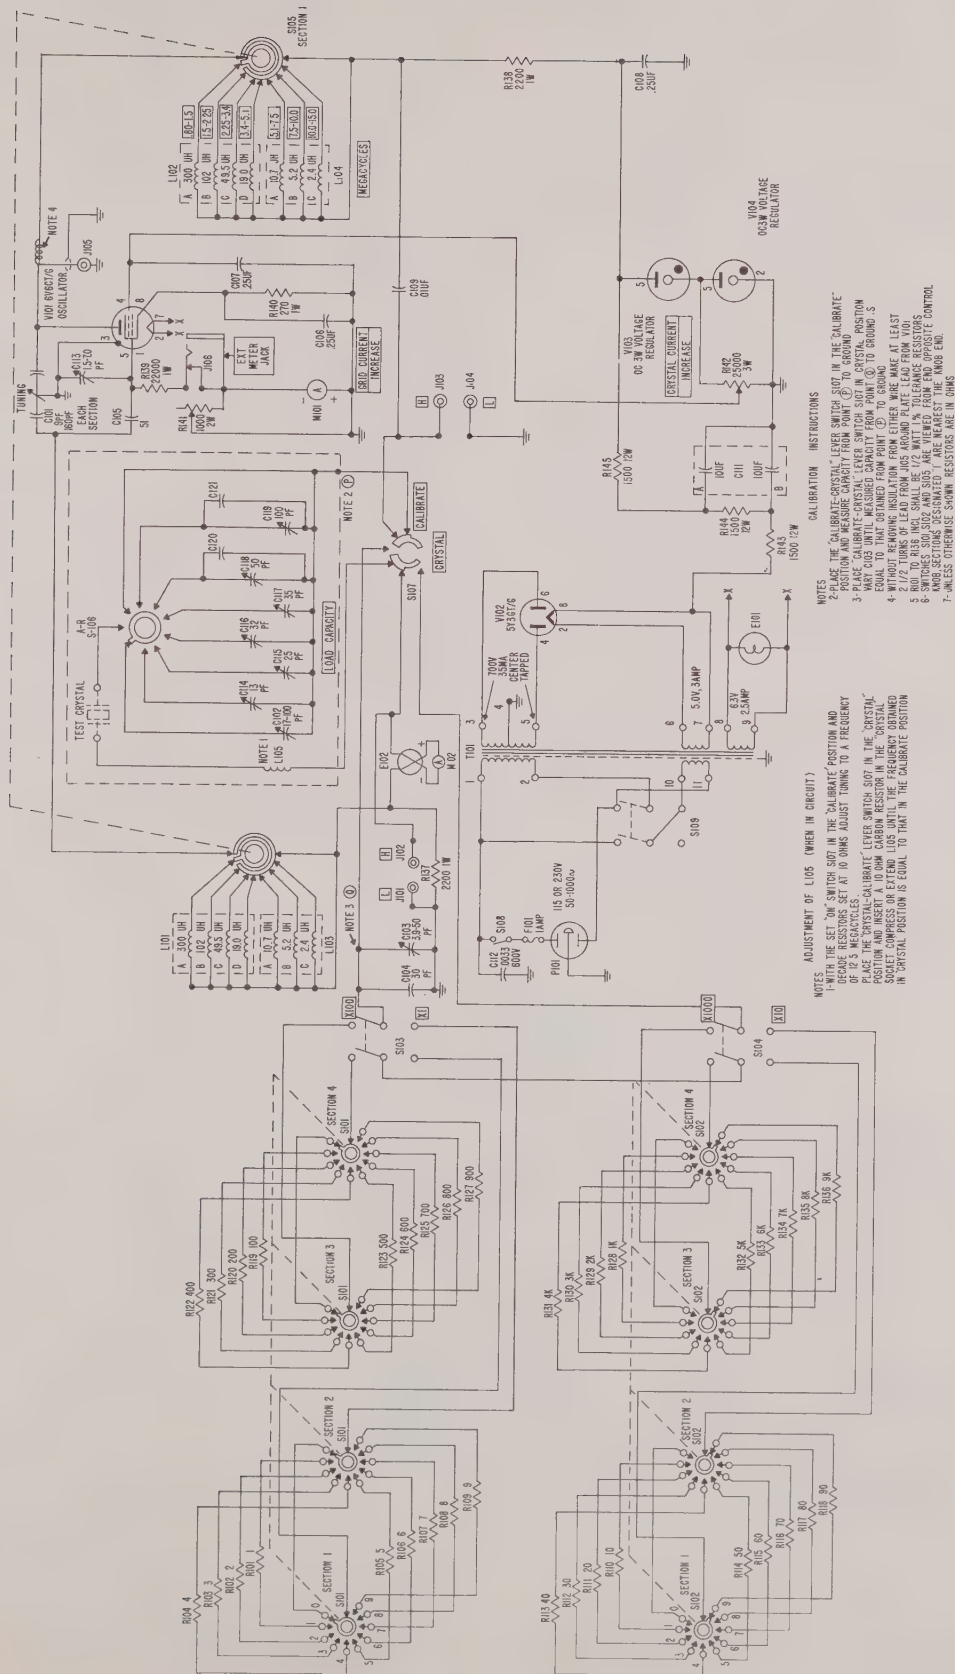

Figure 5. Over-all Schematic Diagram Of Crystal Impedance Meter Model 459B.
h. **General** — To cover the frequency range of 0.8 to 15.0 mc, provision is made to switch various inductance elements into the circuit (Figures 5 and 6). The tuned plate circuit is coupled to the tuned grid circuit by means of a coupling network of which a piezoelectric crystal can be made a part. The circuit is tuned approximately to the resonant frequency of the crystal unit, with the crystal unit in the coupling network. The circuit oscillates near the resonant frequency of the crystal unit, at which point the crystal impedance is resistive. The resistance decade is then switched into the circuit and adjusted to give the same magnitude of oscillation; the TUNING dial is varied to obtain the same frequency as with the crystal unit. This resistance value is then equivalent to the resonant resistance of the crystal unit. The position markings on the decade resistor indicate the resistance value of the crystal. For anti-resonant measurements, a calibrated capacitor (LOAD CAPACITY) is switched in series with the crystal unit, and the circuits are adjusted in the same manner as for resonant operation. The resistance thus determined is the anti-resonance resistance of the crystal unit
i. **Power Supply** — The power supply (Figure 5) is a conventional type that converts 115 or 230 volt a-c, 50 to 1,000cps to the regulated d-c voltage necessary for the plate and screen of oscillator tube V101. Input fuse F101 is rated at 1 amp, 250 volts. Power switch S108 controls the a-c power to the equipment. Transformer T101 has a primary rating of 115 or 230 volt a-c with output windings on the secondary of 700 volts at 35ma (milliamperes) center tapped, 5.0 volts at 3 amp for the filament of V102 (5Y3GT rectifier tube), and 6.3 volts at 2.5 amp for the filament of V101 (6V6GT oscillator tube) and pilot lamp E101. The output of V102 is filtered by resistors R143, R144, and R145, and capacitors C111A and C111B. The d-c voltage for the plate of V101 is controlled by resistor R145 and voltage-regulator tubes V103 and V104 (type OC3). The screen of V101 is supplied with voltage controlled by potentiometer R142 (CRYSTAL CURRENT control). This screen voltage controls the amplitude of the r-f oscillations. Pilot lamp E101 is operated from the 6.3 volt tap of transformer T101. The .003μF (microfarad) capacitor C112 bypasses r-f from the input power line to ground. The .25μF capacitor C108 blocks r-f from the power supply. The 115/230 volt switch S109 permits the switching of the primary windings of T101 for either 115 or 230 volt operation.